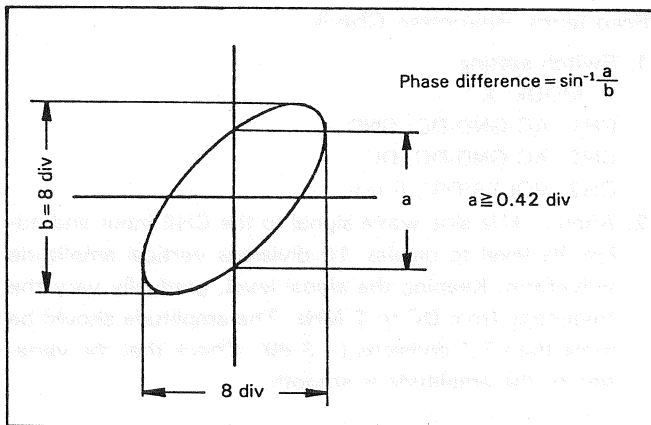

Fig. 11 Phase Difference Check
2. Apply 100 kHz sine wave signal to both CH1 and CH2 input terminals simultaneously and adjust its level to display 8 divisions both vertical and horizontal amplitude Lissajous waveform. Then, check the phase difference as shown in Fig. 11. The phase difference must be  $3^\circ$  or less.